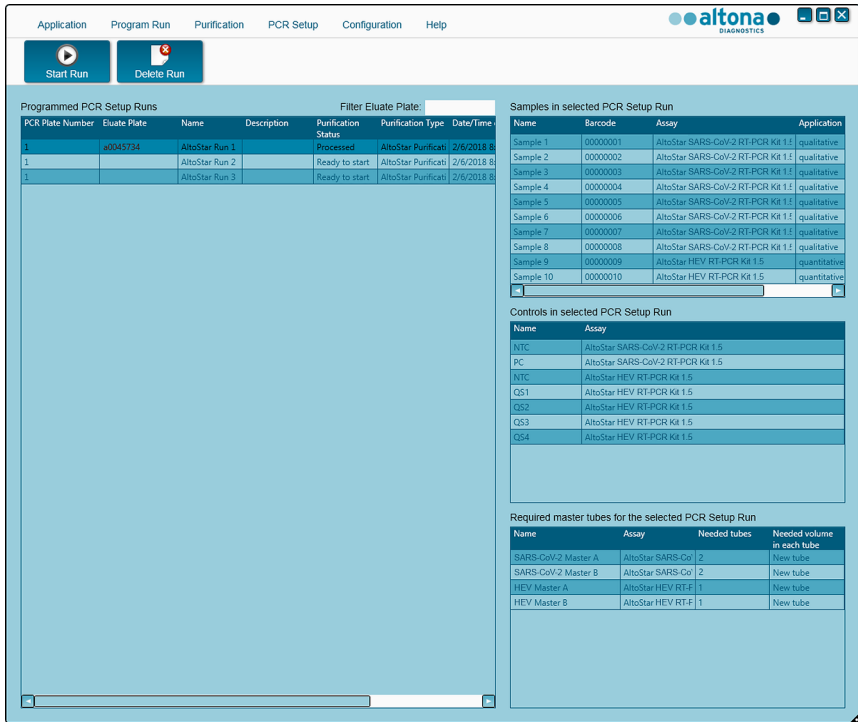

Figure 18: Start PCR Setup Run Screen
1. Select **PCR Setup** → **Start PCR Setup** in the menu bar. Alternatively, go back to the Start Screen of the AltoStar® Connect software and select the **Start PCR Setup** button. The Start PCR Setup Run Screen is displayed (see Figure 18).